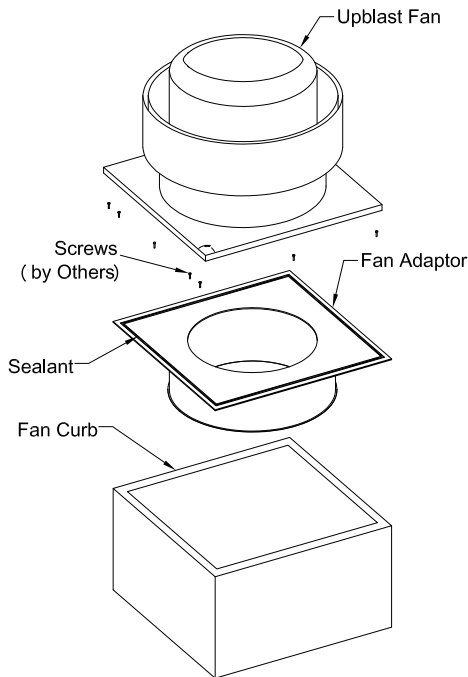

Figure 117: Fan Adapter
2. When connected to an upblast fan, the plate mounts on top of the fan curb which supports the fan housing. See Figure 117.
5. Secure the plate to the curb in a minimum of three (3) places per side with minimum #8 x 1-1/4" wood screws. You will have to drill holes in the plate.